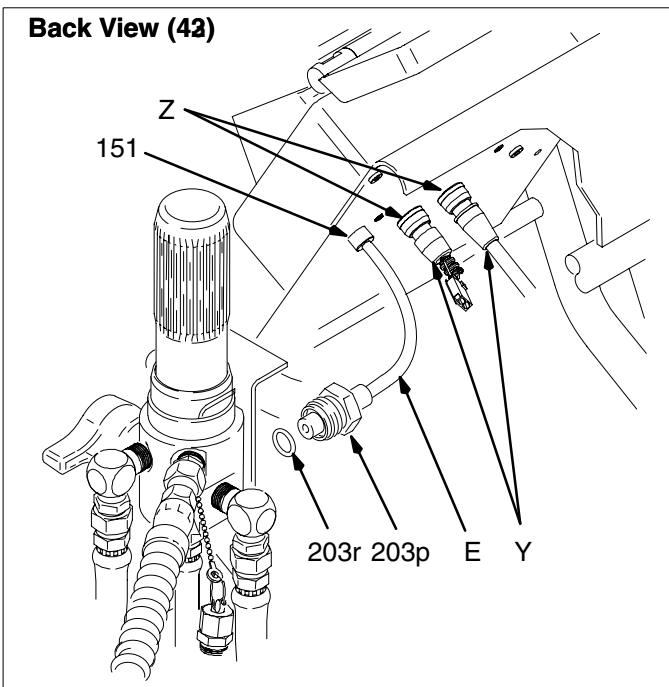

Fig. 2
3. Fig. 2. Remove four screws (93) and display/cover (95).
4. Pull display connector wings (A) open on PC board and pull display connector out.
5. Disconnect ON/OFF switch (30) connector (B) from PC board (123).
6. Press in on two retaining tabs on each side of ON/OFF switch (30) and remove switch.
1. Fig. 2. Install new ON/OFF switch (30) so tabs of switch snap into place on inside of pressure control housing.
2. Connect ON/OFF switch connector (B) to PC board.
3. Push display connector into PC board and close display connector wings (A) on PC board (123).
4. Install display/cover (95) with four screws (93).
3. Fig. 2. Remove four screws (93) and display/cover (95). Pull display connector wings open on PC board and pull display connector out.
4. Disconnect ON/OFF switch (30), connector (B), at control board (123).
5. Remove six screws (217) from control board (123) and green ground wire (F).
6. Remove two connectors (Y) at backside of pressure control. Remove jam nuts (Z) and control board (123).
1. Fig. 2. Install control board (123) and jam nuts (Z). Install two connectors (Y) at backside of pressure control.
2. Install green ground wire and control board (123) with six screws (217).
3. Connect ON/OFF switch (30), connector (B), to control board (123).
4. Push display connector into PC board close display connector wings on PC board. Install display/cover (95) with four screws (93).
4. Disconnect lead (E) from control board (123).
5. Remove strain relief (151). Pull transducer connector through control housing (112).
1. Fig. 2. Install o-ring (203r) and pressure control transducer (203p) in filter housing. Torque to 30–36 ft-lb.
2. Install transducer cable in strain relief through control box. Install filter housing and spacer to control box with two screws (270).
3. Connect lead (E) to motor control board (123).